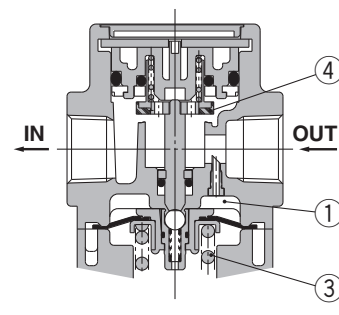

Figure 2 Backflow
When the inlet pressure is higher than the regulating pressure, the check valve ② closes and operates as a normal regulator (Figure 1). When the inlet pressure is shut off and released, the check valve ② opens and the pressure in the diaphragm chamber ① is released into the inlet side (Figure 2). This lowers the pressure in the diaphragm chamber ① and the force generated by the spring ③ lifts the diaphragm. The valve ④ opens through the stem, and the outlet pressure is released to the inlet side (Figure 2).